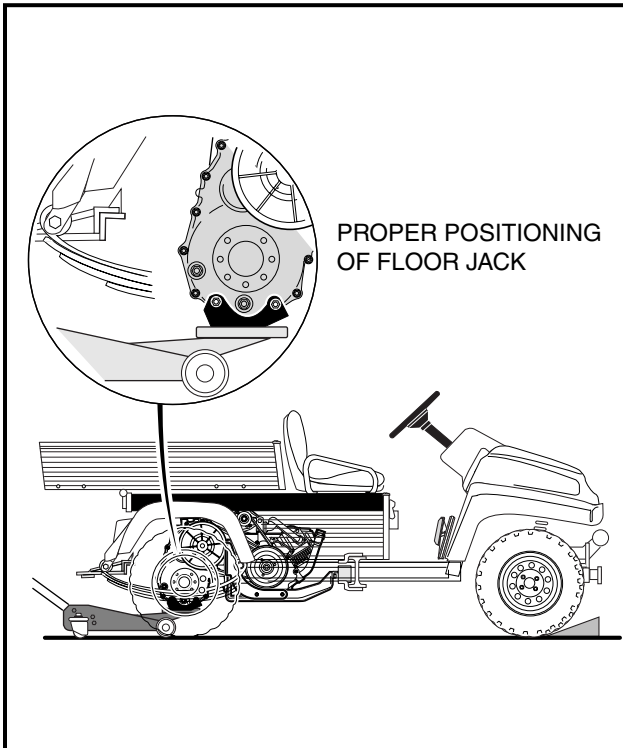
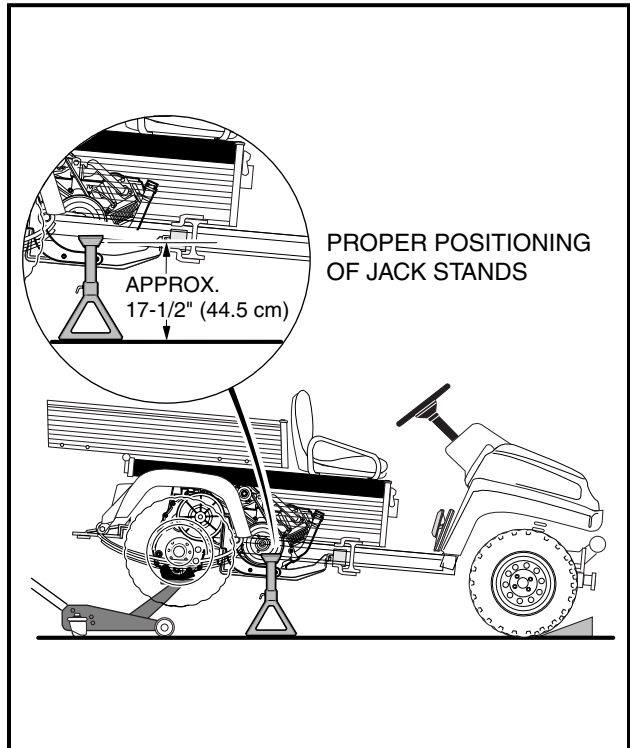

Figure 16-25 Raise Vehicle
Figure 16-26 Position Jack Stands
8. Use a hydraulic jack under the transaxle (**Figure 16-25, Page 16-12**) and raise the vehicle. Place jack stands, set at approximately 17-1/2 inches (44.5 cm) in height, under the frame (**Figure 16-26, Page 16-12**).
9. Lower the hydraulic jack, allowing the vehicle I-beam frame to rest on the jack stands but allow the jack to remain under, and in contact with the transaxle case guard (**Figure 16-26, Page 16-12**).